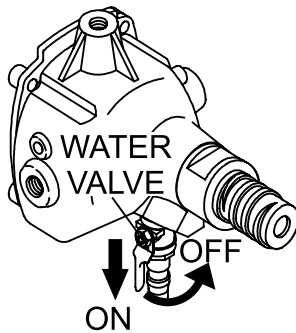

Figure 10. Water Valve (ON Position)
1. Place the valve on the water source to the ON position, and then turn the water valve on the core drill (Figure 10) to the ON position (down). Verify that water is flowing smoothly and evenly.